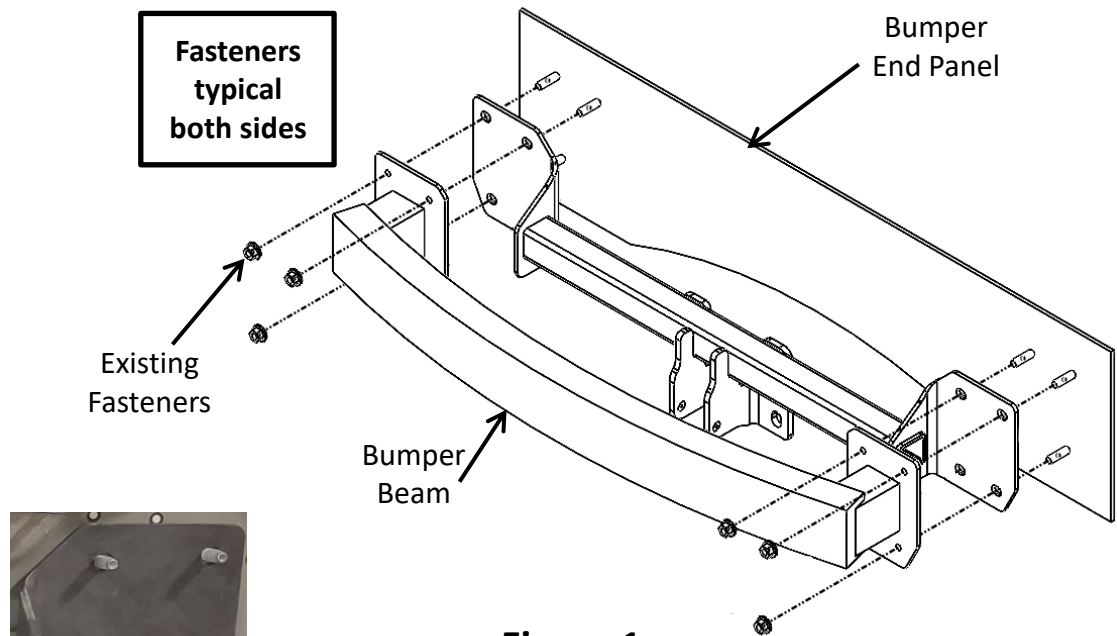
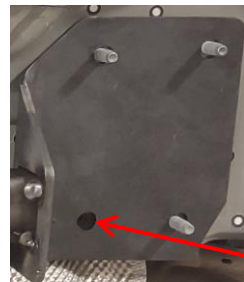

Figure 1
Figure 2
- Fascia and bumper beam removal** – Use T20 star driver to remove (4) screws from bottom fascia and (5 on XC90, 7 on XC60) screws from wheel well each side. Open the trunk (XC60 remove the bump stops) and gently remove the fascia. Unplug (2 on XC90, 1 on XC60) wirings from the fascia and carefully set the fascia aside. Use 15mm socket to remove (3) flange nuts from bumper beam each side and then remove bumper beam. Set the bumper beam and fasteners aside carefully. **NOTE:** Some models might have (4) flange nuts on bumper beam each side.
- Hitch installation** - Raise the hitch into position and align bracket holes to the studs on end panel. Raise bumper beam to sandwich the hitch. Reuse flange nuts from bumper see **Figure 1**. If a fourth hole in the bumper is open use items ① and ② see **Figure 2**.